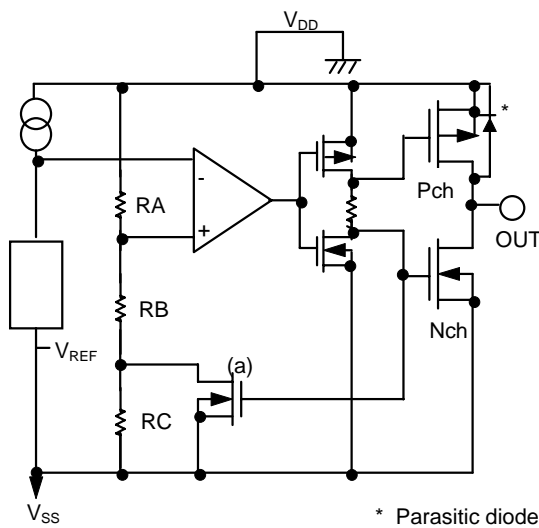
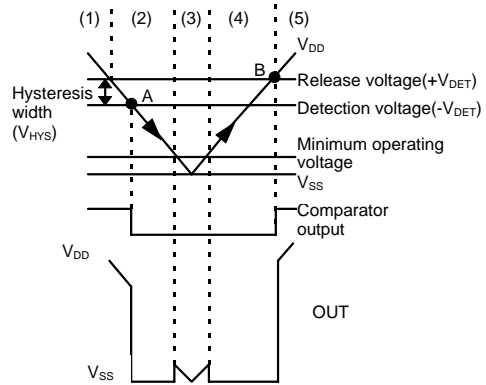

Figure 13
Figure 14
Hysteresis width is the voltage difference between a device's detection voltage and its release voltage (see Figure 14). $V_{HYS}=B-A$. By giving a device hysteresis, erroneous toggling of the output due to noise at the input is avoided.
- (1) When power supply voltage V_{DD} is greater than the release voltage $+V_{DET}$, the Nch transistor is OFF and the Pch transistor ON, causing V_{DD} (high) to appear at the output. With the Nch transistor of Figure 13 (a) off, the comparator input voltage is $(RB+RC)/(RA+RB+RC) \times V_{DD}$.
- (2) When power supply voltage V_{DD} goes below $+V_{DET}$, the output continues to maintain the power supply voltage level, as long as V_{DD} remains above the detection voltage $-V_{DET}$. When V_{DD} does fall below $-V_{DET}$ (A in Figure 14), the Nch transistor goes ON, the Pch transistor goes OFF, and V_{SS} appears at the output. With the Nch transistor of Figure 13 (a) ON, the comparator input voltage is $RB/(RA+RB) \times V_{DD}$.
- (3) When V_{DD} falls below the minimum operating voltage, the output becomes undefined. However, output will revert to V_{DD} if a pull-up has been employed.
- (4) V_{SS} will again be output when V_{DD} rises above the minimum operating voltage. V_{SS} will continue to be output even when V_{DD} surpasses $-V_{DET}$, as long as it does not exceed the release voltage $+V_{DET}$.
- (5) When V_{DD} rises above $+V_{DET}$ (B in Figure 14), the Nch transistor goes OFF, the Pch transistor goes ON, and V_{DD} appears at the output.